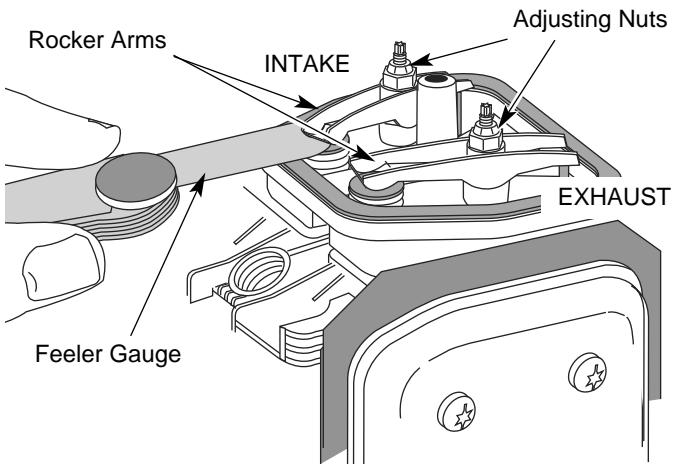

Fig. 38
9. Slide the feeler gauge between the rocker arm and the valve return spring. Measure the clearance between the valve stem and rocker arm (Fig. 38). Measure both the intake and exhaust valves.
The recommended clearance for both intake and exhaust is .003 D .006 in. (.076 D 0.152 mm). Use a standard automotive .005 in. (0.127 mm) feeler gauge. The feeler gauge should slide between the rocker arm and valve stem with a slight amount of resistance, without binding. See Figures 38 and 39.